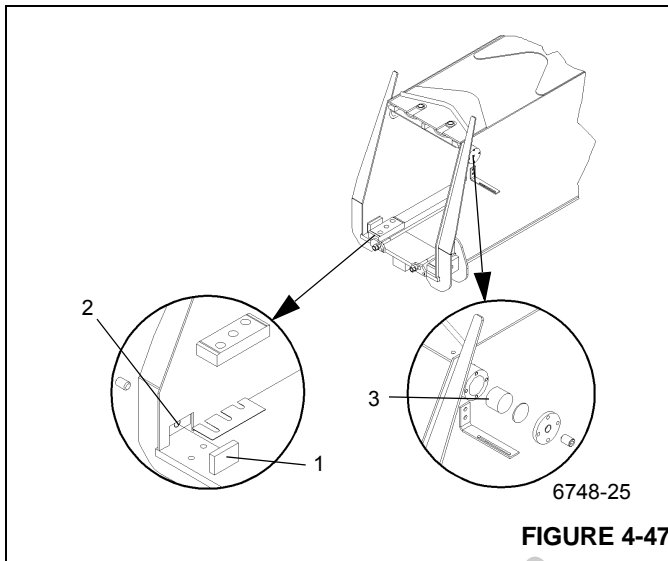

FIGURE 4-47
2. Install the lower (brass) wear pads (Figure 4-47, 1) to the outer mid section. Back out the adjustment set screw so the pad seats fully into the pocket (Figure 4-47, 2). The pad should extend no more than 1/8 of an inch into the outer mid section for the initial installation.
3. Insert the upper wear pad, backing plate and adjusting plate. (Figure 4-47, 3)